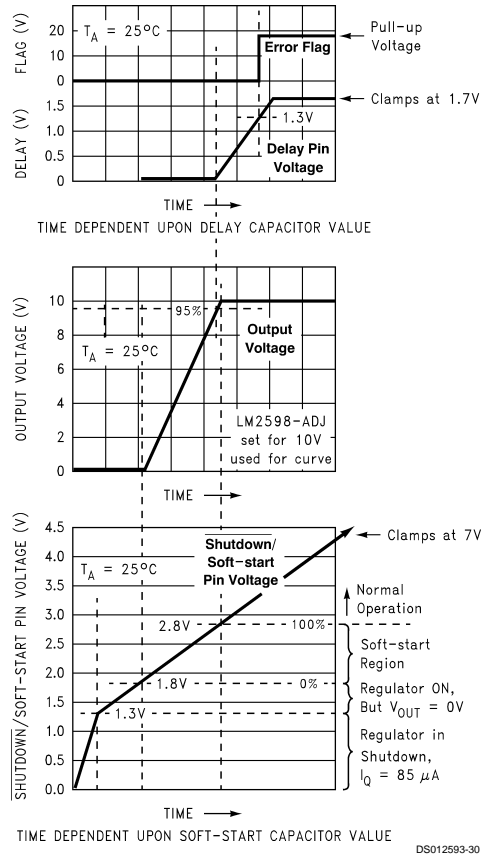
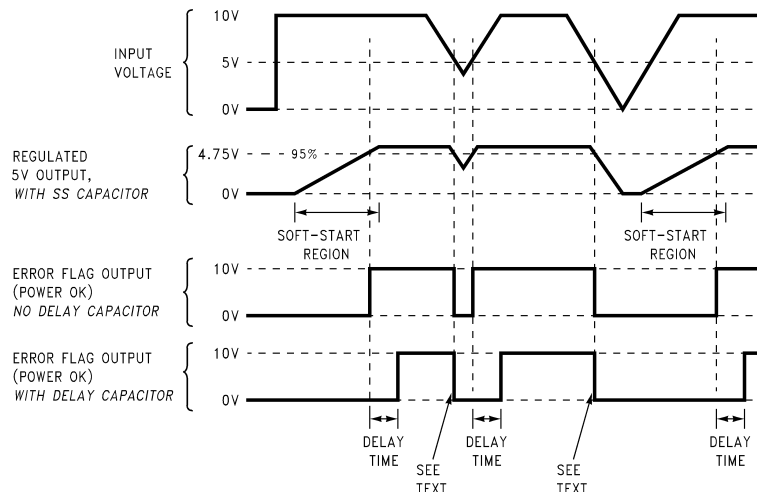

FIGURE 13. Soft-start, Delay, Error, Output
FIGURE 14. Timing Diagram for 5V Output
C_{SS} —A capacitor on this pin provides the regulator with a Soft-start feature (slow start-up). When the DC input voltage is first applied to the regulator, or when the \overline{SD}/SS pin is allowed to go high, a constant current (approximately 5 μA) begins charging this capacitor). As the capacitor voltage rises, the regulator goes through four operating regions (See the bottom curve in Figure 13).
3. Soft-start Region. When the \overline{SD}/SS pin voltage is between 1.8V and 2.8V (@ 25°C), the regulator is in a Soft-start condition. The switch (Pin 1) duty cycle initially starts out very low, with narrow pulses and gradually get wider as the capacitor \overline{SD}/SS pin ramps up towards 2.8V. As the duty cycle increases, the output voltage also increases at a controlled ramp up. See the center curve in Figure 13. The input supply current requirement also starts out at a low level for
Note: The lower curve shown in Figure 13 shows the Soft-start region from 0% to 100%. This is not the duty cycle percentage, but the output voltage percentage. Also, the Soft-start voltage range has a negative temperature coefficient associated with it. See the Soft-start curve in the electrical characteristics section.
C_{DELAY} — Provides delay for the error flag output. See the upper curve in *Figure 13*, and also refer to timing diagrams in *Figure 14*. A capacitor on this pin provides a time delay between the time the regulated output voltage (when it is increasing in value) reaches 95% of the nominal output voltage, and the time the error flag output goes high. A 3 μA constant current from the delay pin charges the delay capacitor resulting in a voltage ramp. When this voltage reaches a threshold of approximately 1.3V, the open collector error flag output (or power OK) goes high. This signal can be used to indicate that the regulated output has reached the correct voltage and has stabilized.